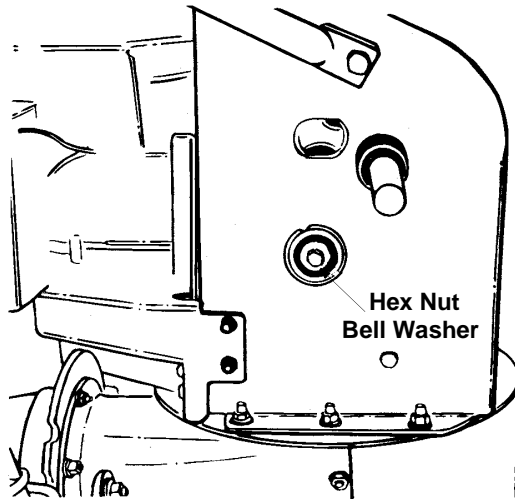

Figure 25
- Using an adjustable wrench to hold the shaft, loosen, but do not completely remove, the hex nut and bell washer on the left end of gear shaft. See Figure 25.